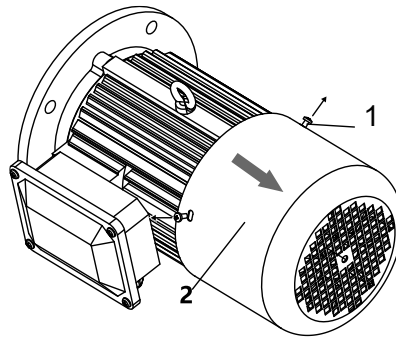

Fig. 6-20a
- See Fig. 6-20a, loosen the retaining bolts ① and remove the fan cover ②;